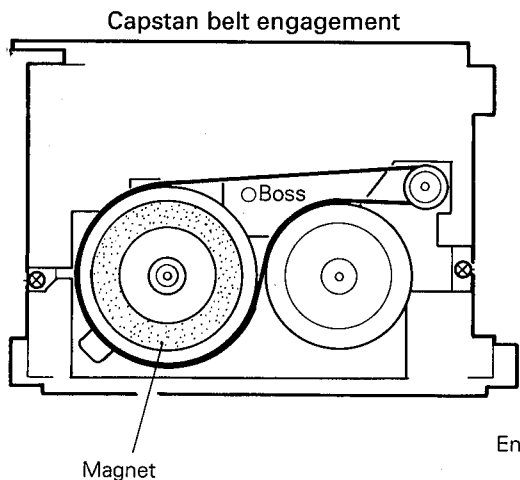

Fig. 2-14
- 2) Remove one screw ⑤ retaining the reel motor assembly.
- 3) Remove one screw ⑥ retaining the grounding wire to the DD motor bracket.
- 4) Remove two screws ⑦ retaining the DD motor.
- For reengaging the capstan belt, refer to Fig. 2-14.